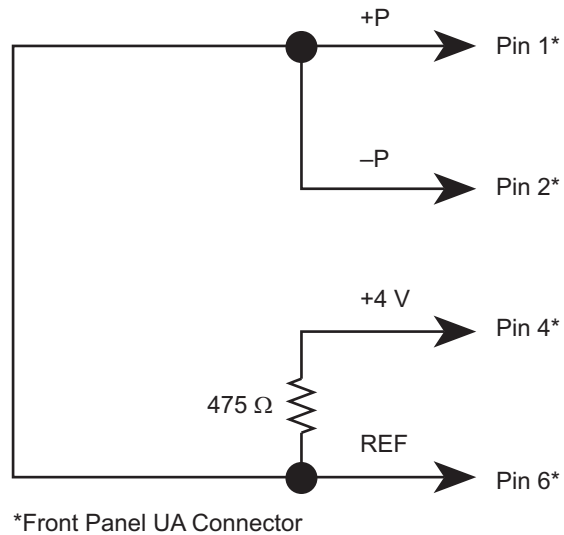

Figure 7-7. CMR Test Jack
- Common Mode Rejection (CMR) Test Jack (Figure 7-7 and Table 7-8)
- ◆ Common Mode Rejection (CMR) Test Jack (Refer to Figure 7-7 and Table 7-8.)